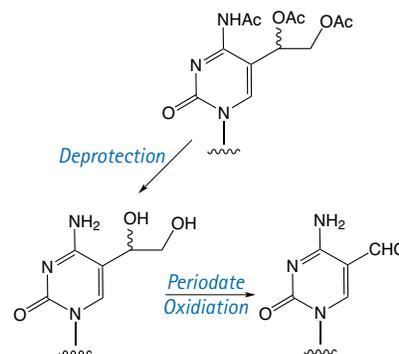

Figure 1: Deprotection and Oxidation to 5-Formyl-dC
The incorporation of 5-formyl-dC into an oligonucleotide requires the incorporation of the 5-Formyl-dC-CE Phosphoramidite (1). Following deprotection, 5-(glycolyl)-dC is formed and subsequent oxidation with sodium periodate leads to 5-formyl-dC, as shown in Figure 1.